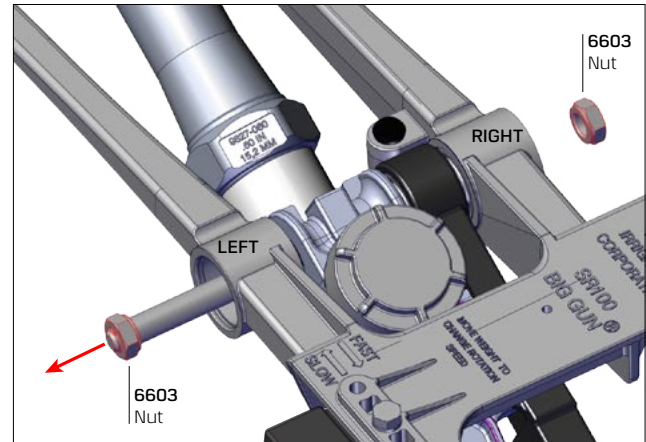

Fig. 2.
- C. Using two socket wrenches (11/16" sockets), one on each **#6603** nut, remove the nut from right end of the shaft. Push shaft in from right to left, until it can be grasped by nut, then pull shaft completely out of assembly. (See Fig. 2).